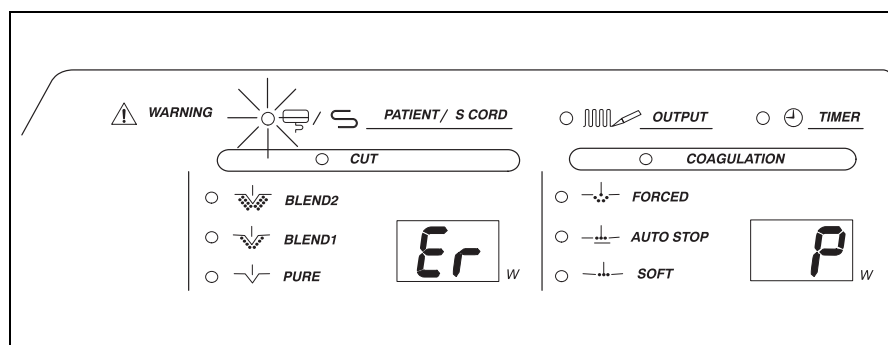

Figure 4.6
2. Confirm that the patient/S-cord warning indicator lights up and the warning alarm is heard and the indicators shown in Figure 4.6 light.